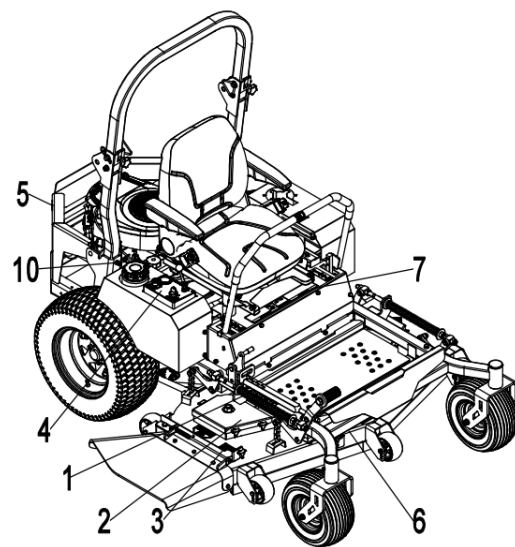
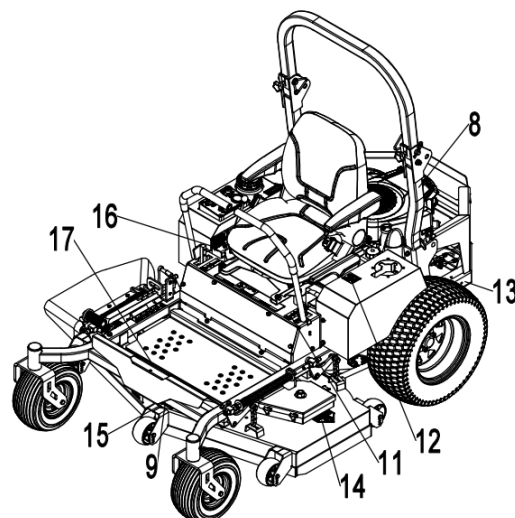

Fig. 1
Fig. 2
- All **DANGER, WARNING, CAUTION** and instructional messages on your machine should be carefully read and obeyed. Personal injury can result when these instructions are not followed. The information is for your safety and it is important! The safety decals below are on your machine. The position of decals refer to Fig. 1 and Fig. 2.